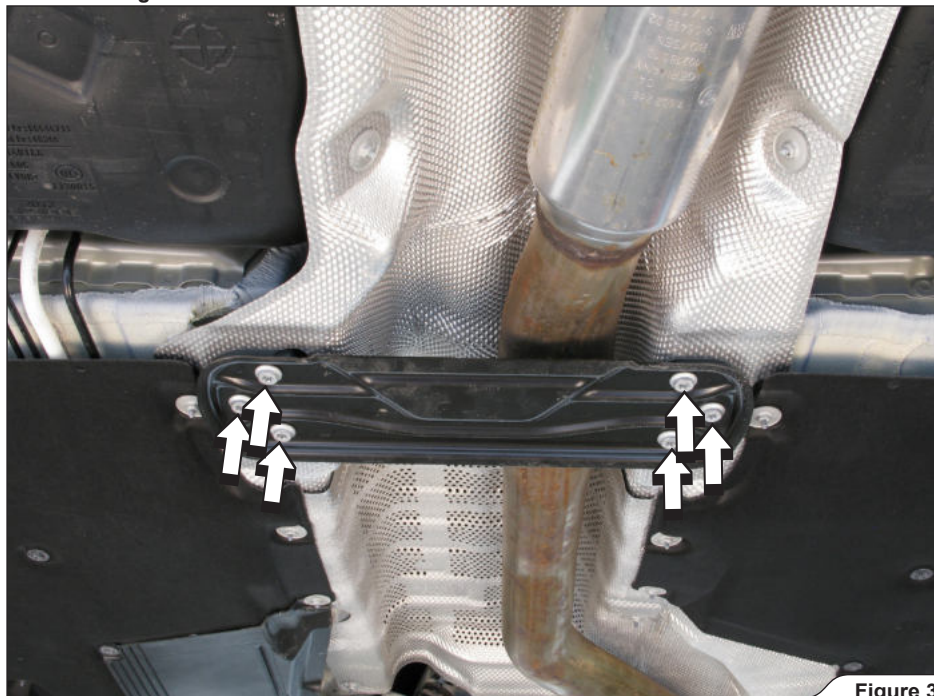

Figure 3
- Support the exhaust system, unscrew the marked bolts and remove the chassis reinforcement (Figure 3).